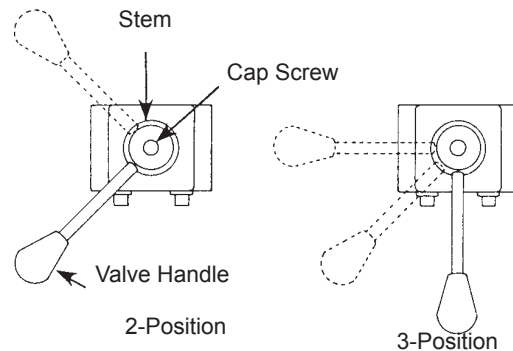

Figure 3
2. 3-Position, 3-Way Manual Valve Used With Single-acting Cylinders (Figure 3)
- A. To hold pressure, turn the valve control handle clockwise (CW).
3. 3-Position, 4-Way Manual Valve used with Double-acting Cylinders (Figure 3)